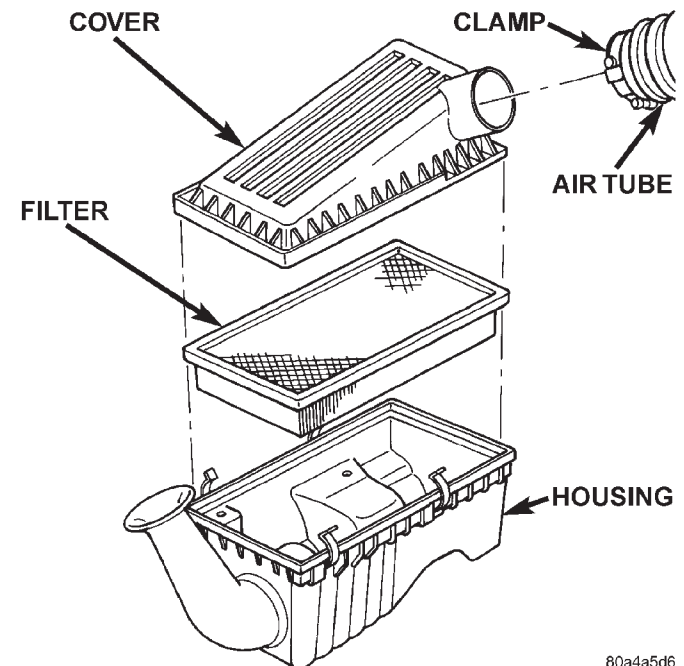

Fig. 51 Air Cleaner Element
- (1) Loosen air tube clamp at housing cover (Fig. 51).
- (2) Disconnect air tube at cover.
- (3) Pry back the clips retaining air cleaner cover to air cleaner housing.
- (4) Lift cover up to expose air cleaner element.
- (5) Remove air cleaner element.
- (6) Clean inside of air cleaner housing and its cover before installing new element.